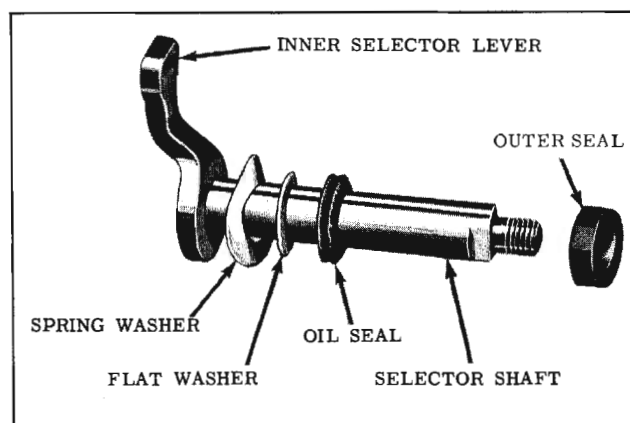

Fig. 11-29 Inner Selector Lever and Shaft
3. Install the spring washer, flat washer, and the oil seal on the inner selector shaft in that order, with the crowned side of the spring washer against the flat washer. (Fig. 11-29)